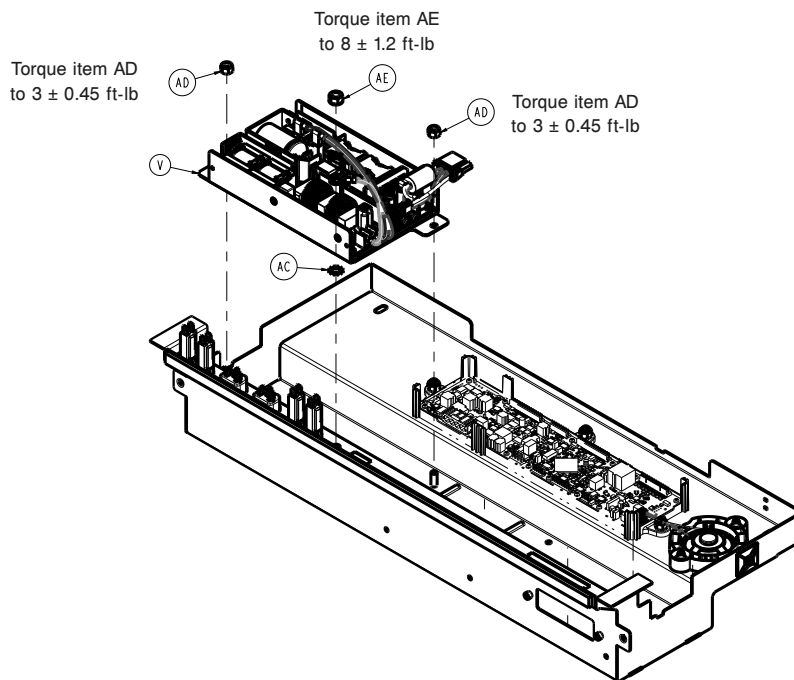

Figure 28 – Replacing the power supply
11. Using a ratchet and a 7/16" socket, remove the two nuts (AD) that secure the power supply assembly to the electrical enclosure (Figure 28). Save the nuts.